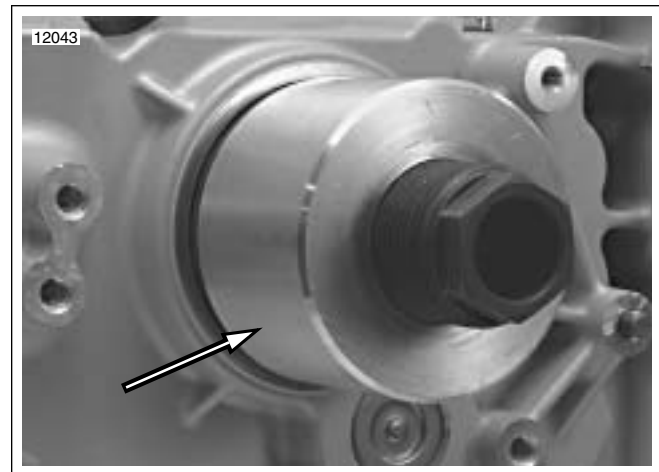

Figure 6-80. Place Installer (Part No. HD-47856-1) over Adapter (Typical)
5. See Figure 6-80. Slide INSTALLER (Part No. HD-47856-1) over adapter until cupped end of installer is flat against seal.